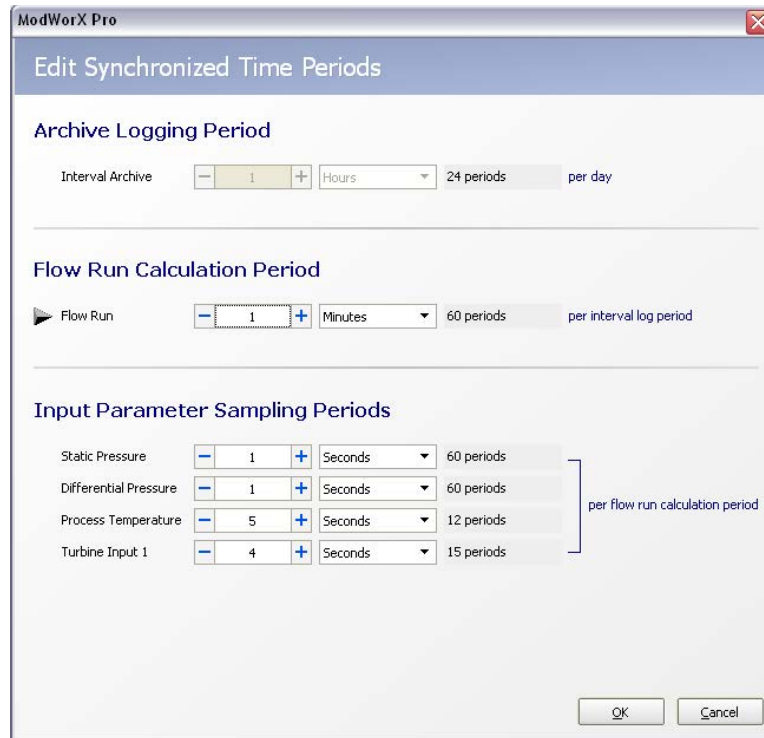

Figure 4.5
4. Under Calculation Parameters, click **Edit** to change the frequency of flow rate calculations. The Edit Synchronized Time Periods dialog will appear and an arrow will point to the flowrun calculation period setting (Figure 4.5, page 50). The flowrun calculation period is the time period from one flow rate and volume calculation to the next. Increasing this period decreases the power consumption for the device.